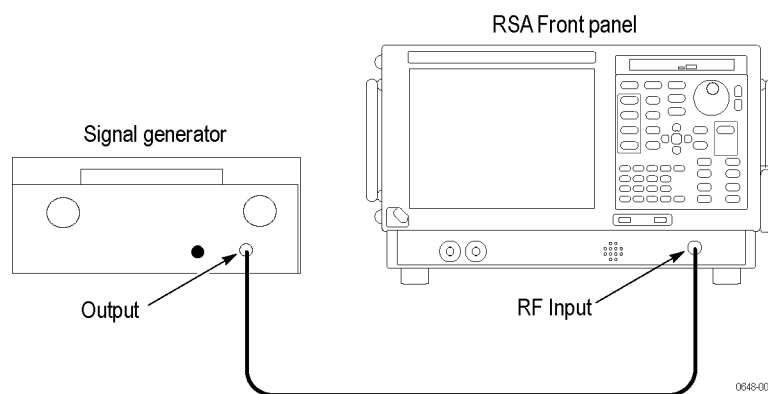

Figure 17: Equipment connections for Signal Spurious check
1. Connect the RF generator to the RSA6100B RF Input. (See Figure 17.)